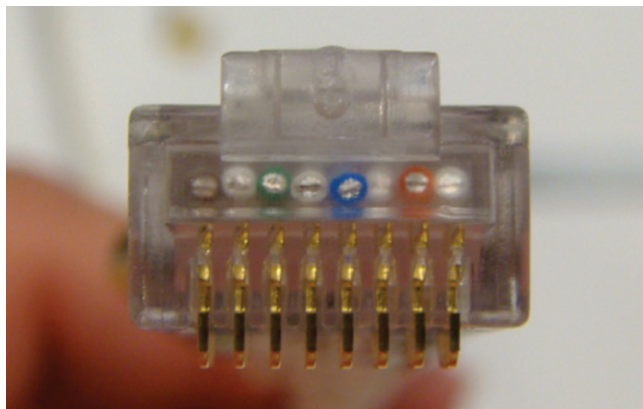

Figure 24: Seating the load bar
- Seat the load bar into the connector body plug until the wires come into contact with the inside surface of the plug (Figure 24).